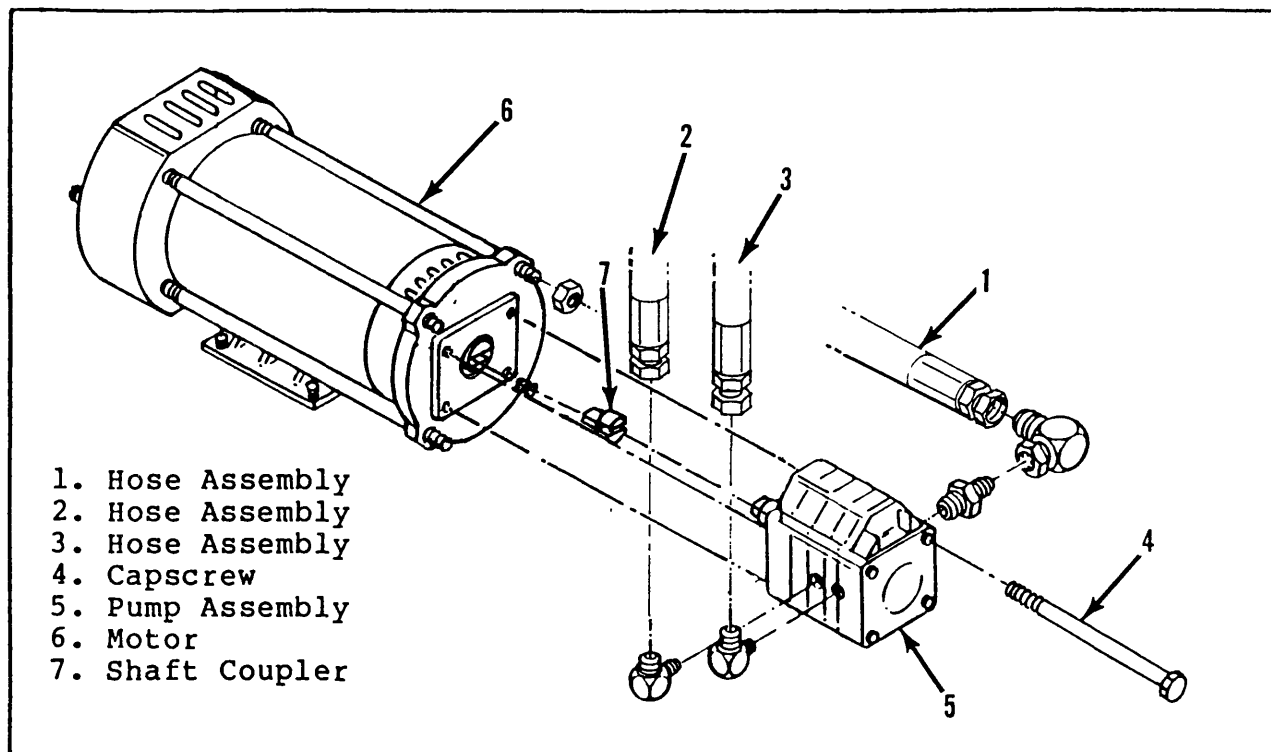

Figure 5-9. Hydraulic Pump Removal
5-18. HYDRAULIC PUMP (Figure 5-9 and 5-10).
a. Removal (Figure 5-9).
(1) Clamp mount flange (2) in a vise with mount surface pointing down.
(2) Install alignment pins (3) in mount flange (2).
(3) Place new O-ring (11) in its groove in mount flange and then install larger pump section (8) and shaft assemblies (5, 10).
(4) Place new O-ring (11) in front groove of center body section (12) and slip it over shafts (5, 10) and aligning pins (3, 7). Ensure O-ring remains in its groove.
(5) Install thin pump section alignment pins (18) in center body section (12).
(6) Place O-ring (11) in back groove of center body section (12) and install thin pump section (17).
(7) Install gear ball key (6) in drive shaft (5) and then slide gears on shafts and into place.
(8) Place O-ring in groove on end cover (19) and then slide end cover on to shaft and align pins.
(9) Install the two short capscrews (20) in pump body and tighten until snug (approximately 5 ft. lb. torque).
(10) Slide a shaft protector tube over the exposed end of the pump shaft. Slip the front shaft seal over the shaft protector tube and press into place.
f. Installation (Figure 5-9).
(1) Lubricate the pump (5) and shaft coupler (7) with general purpose grease and attach the pump and shaft coupler to the motor (6) with the two long capscrews (4).
(2) Use a criss cross pattern and torque each capscrew a little at a time until all 4 capscrews are torqued to 20 ft. lbs.
(3) Unplug and reconnect the hydraulic hoses.
(4) Check the oil level in the hydraulic tank before operating the work platform.